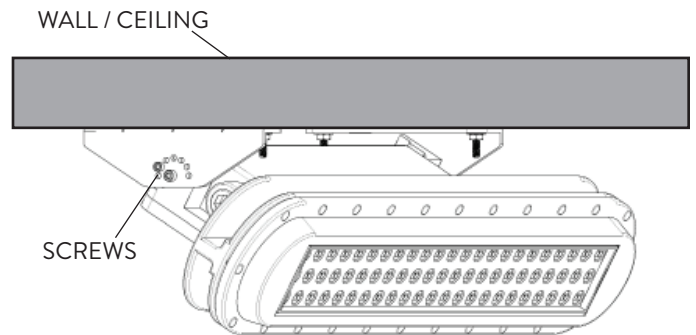

FIG. 13
- 5 Align the Surface Mount hole to the FHZL fixture hole. Re-insert and tighten the Screws (Fig 13).